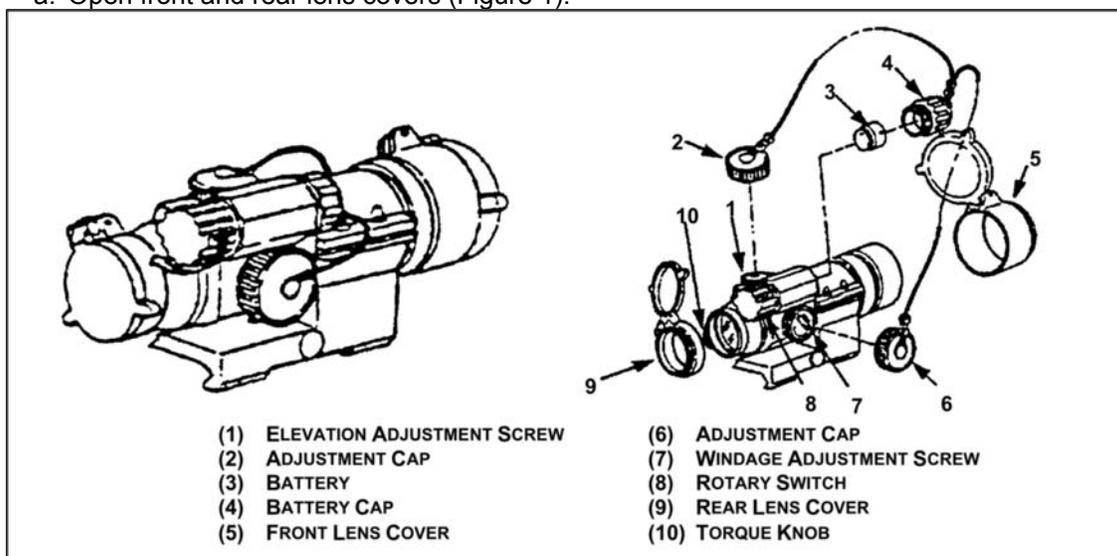

Figure 1. M68, close combat optic.
- a. Open front and rear lens covers (Figure 1).
- d. If adjustment is required, remove adjustment screw caps from adjustment screws by turning them counterclockwise (Figure 1).
- (1) To move the point of impact to the right, turn the windage adjustment screw counterclockwise.
- (2) To move the point of impact to the left, turn the windage adjustment screw clockwise.
- (3) To move point of impact up, turn the elevation adjustment screw counterclockwise.
- (4) To move the point of impact down, turn the elevation adjustment screw clockwise.